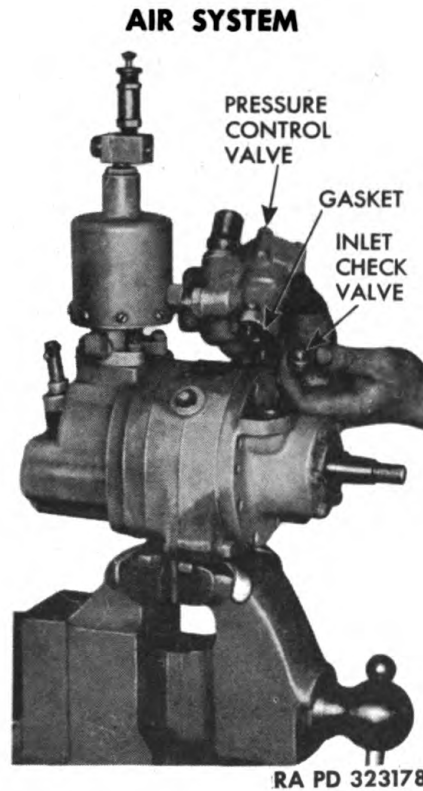

Figure 182 — Removing Pressure Control Valve and Inlet Check Valve
(4) REMOVE BOTH AIR TUBES (fig. 182). Unscrew fitting nuts attaching ends of tubes.
(5) REMOVE PRESSURE CONTROL VALVE AND INLET CHECK VALVE (fig. 182). Remove two cap screws and lock washers securing valve to stator drive end plate, and lift off pressure control valve and gasket. Use a small screwdriver between the check valve and seat to lift out inlet check valve.